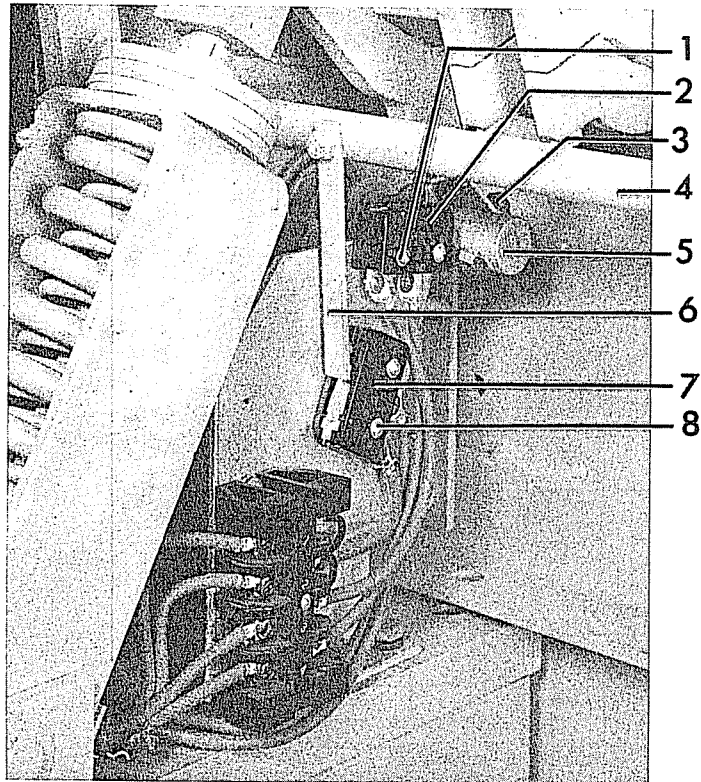

Figure 10 (8024689) Interlock Switch and Latch Checking Switch
Referring to Figure 10, rotate the interlock shaft (4) manually clockwise to release the interlock switch arm (6). The point at which the contacts make can be determined with a circuit continuity tester such as a light indicator or bell set. To obtain adjustment on the interlock switch (7), bend the interlock switch arm (6). The roller and crank on the interlock switch should have $1/32''$ to $1/16''$ overtravel after final adjustment.